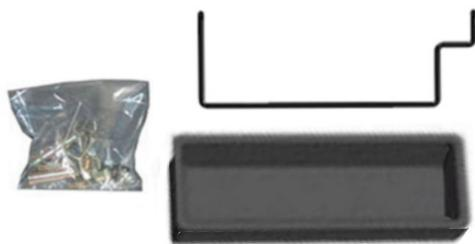

Fig.4
2. Open the parts box, check the parts according to the parts list (See Fig. 4).